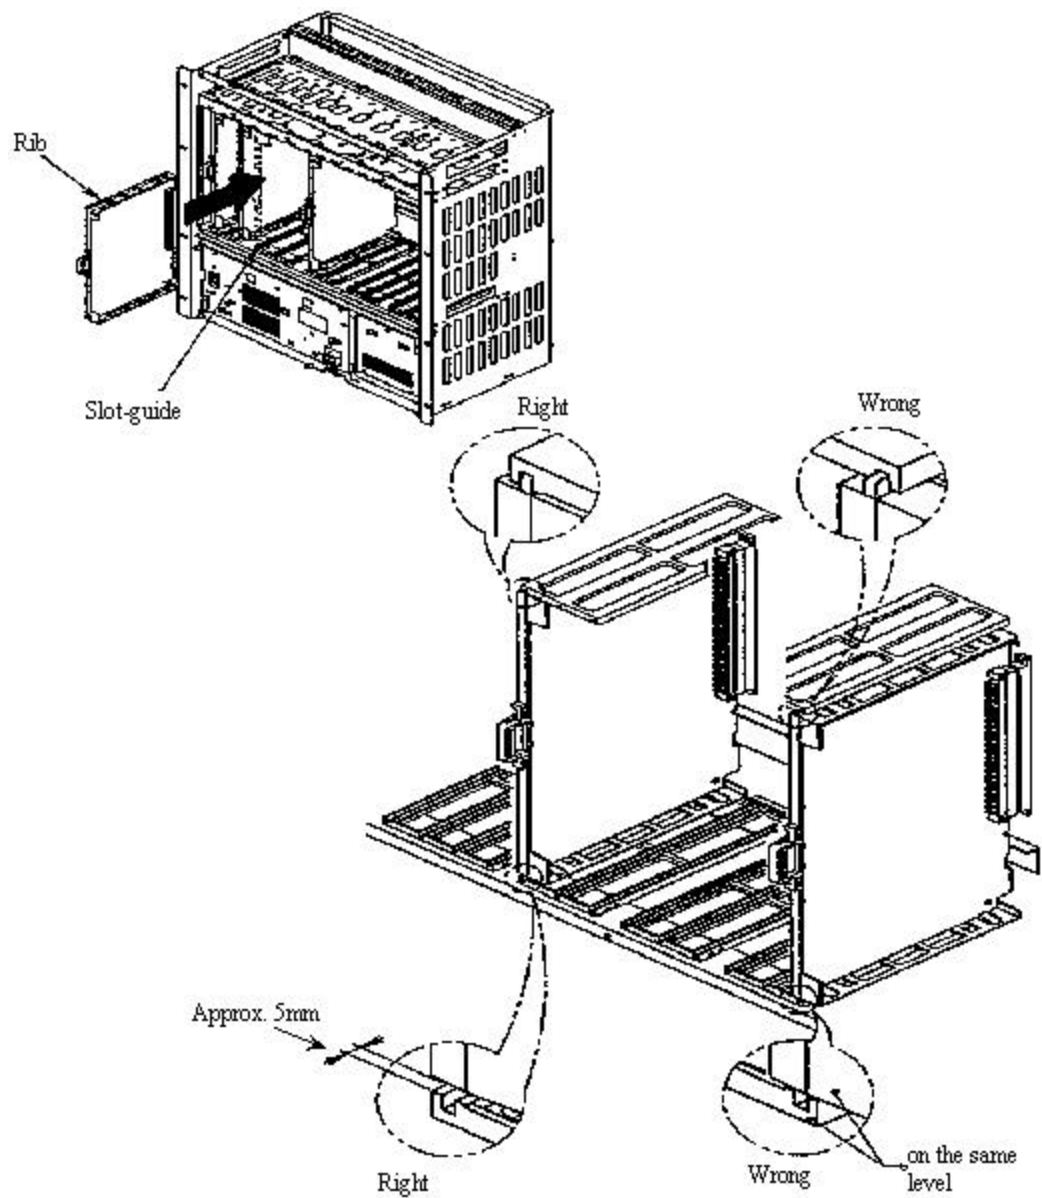

Figure 2-20: Card Installation
- Slide the card into the RPC shelf using the upper and lower slot guides. When properly seated, the lower edge of the card is recessed from the outer edge of the lower slot guide. And the upper edge of the card is flush with the outer edge of the upper card guide. Refer to Figure 2-20.